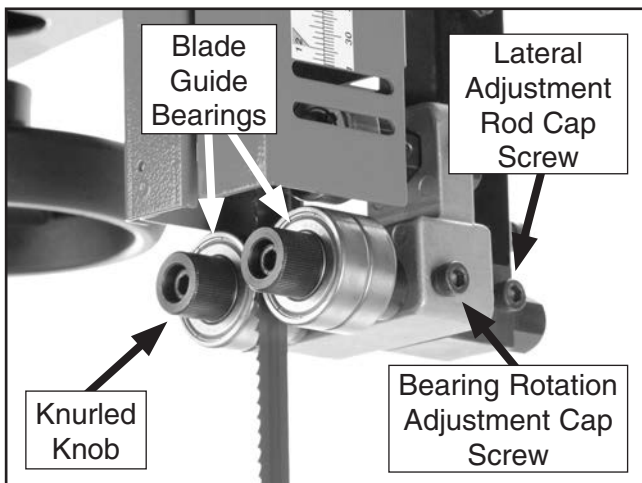

Figure 21. Blade guide controls.
3. Familiarize yourself with the upper blade guide controls shown in **Figure 21**.